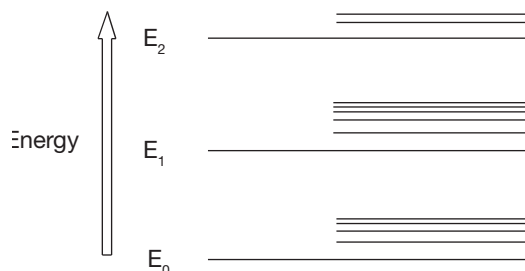

Figure 4. Electronic and vibrational transitions.
1. Molecules that absorb energy in the UV/Vis range tend to have broad absorbance bands, rather than discrete peaks, due to the possibility of different vibrational energy states associated with each electronic transition. Add arrows in Figure 4 to show at least three different energy transitions corresponding to promotion of an electron from E_0 to E_1 .